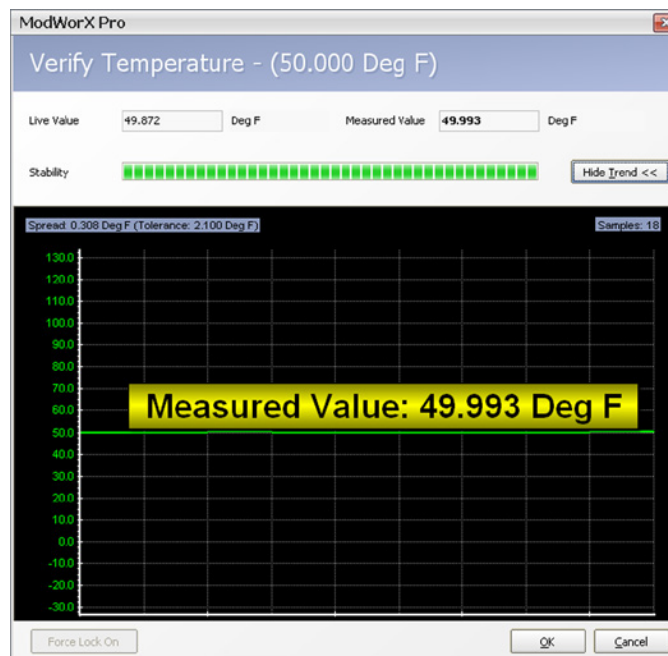

Figure 8.22
8. When the Scanner reads 10 consecutive readings (within the tolerance based on the range of the sensor), it will “lock on” to that data set and display a “measured value” (Figure 8.22, page 125).